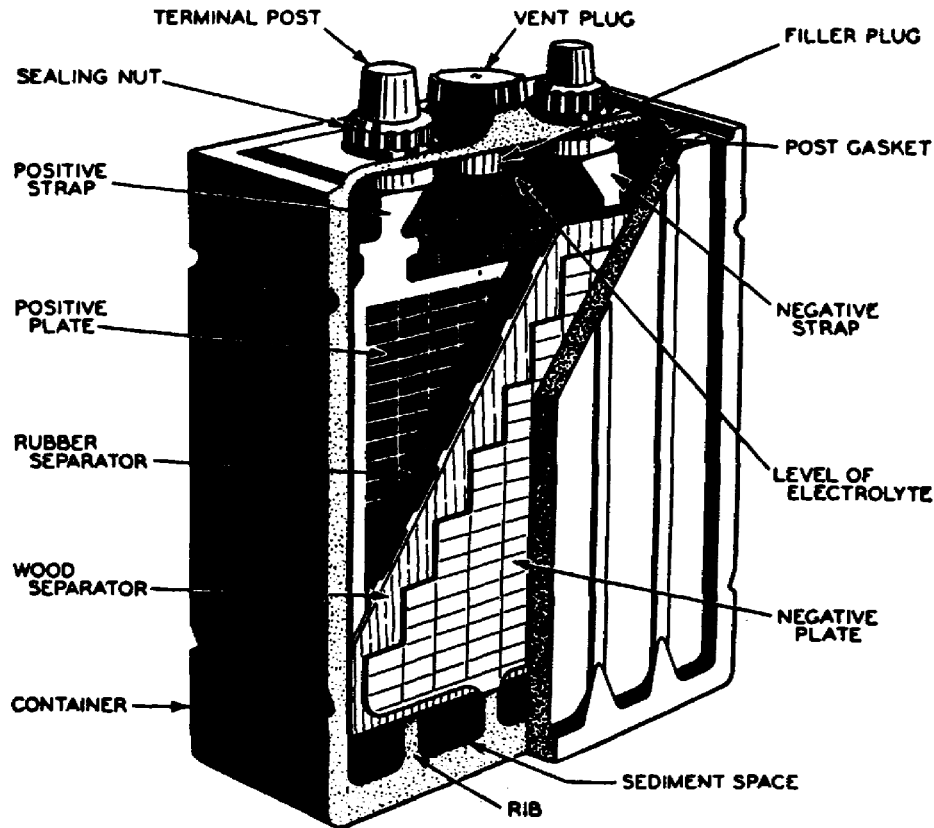

Figure 16. Cutaway view of single cell.
(5) Set the varidrive for 2,000 RPM as indicated on the tachometer (0-5,000 RPM scale).
(6) Check the speed of the high or low speed driving head using either a hand tachometer or strobotac of known accuracy. The tachometer circuit selector remains in the DIRECT DRIVE position during this check. The tachometer must agree with the hand tachometer or strobotac.
(7) Set the drive speed control clockwise (reducing varidrive speed).
(8) Depress the STOP button.
(9) Place the circuit breaker switch to OFF.
d. Several cells are connected in series to form batteries larger than 2 volts. Three cells are required for 6-volt batteries and six cells for 12-volt batteries. The cell terminals are connected by welding them to connector straps. Cells are placed in a one-piece container that is divided into compartments. Each compartment is the container for one cell. Figure 16 shows a cutaway view of a single cell. The element rests on raised ribs. The area between the ribs serves as sediment space. During use, the active material on the plates gradually sheds and falls into the sediment space. The container is constructed of insulating material which is resistant to acid corrosion and mechanical shock.